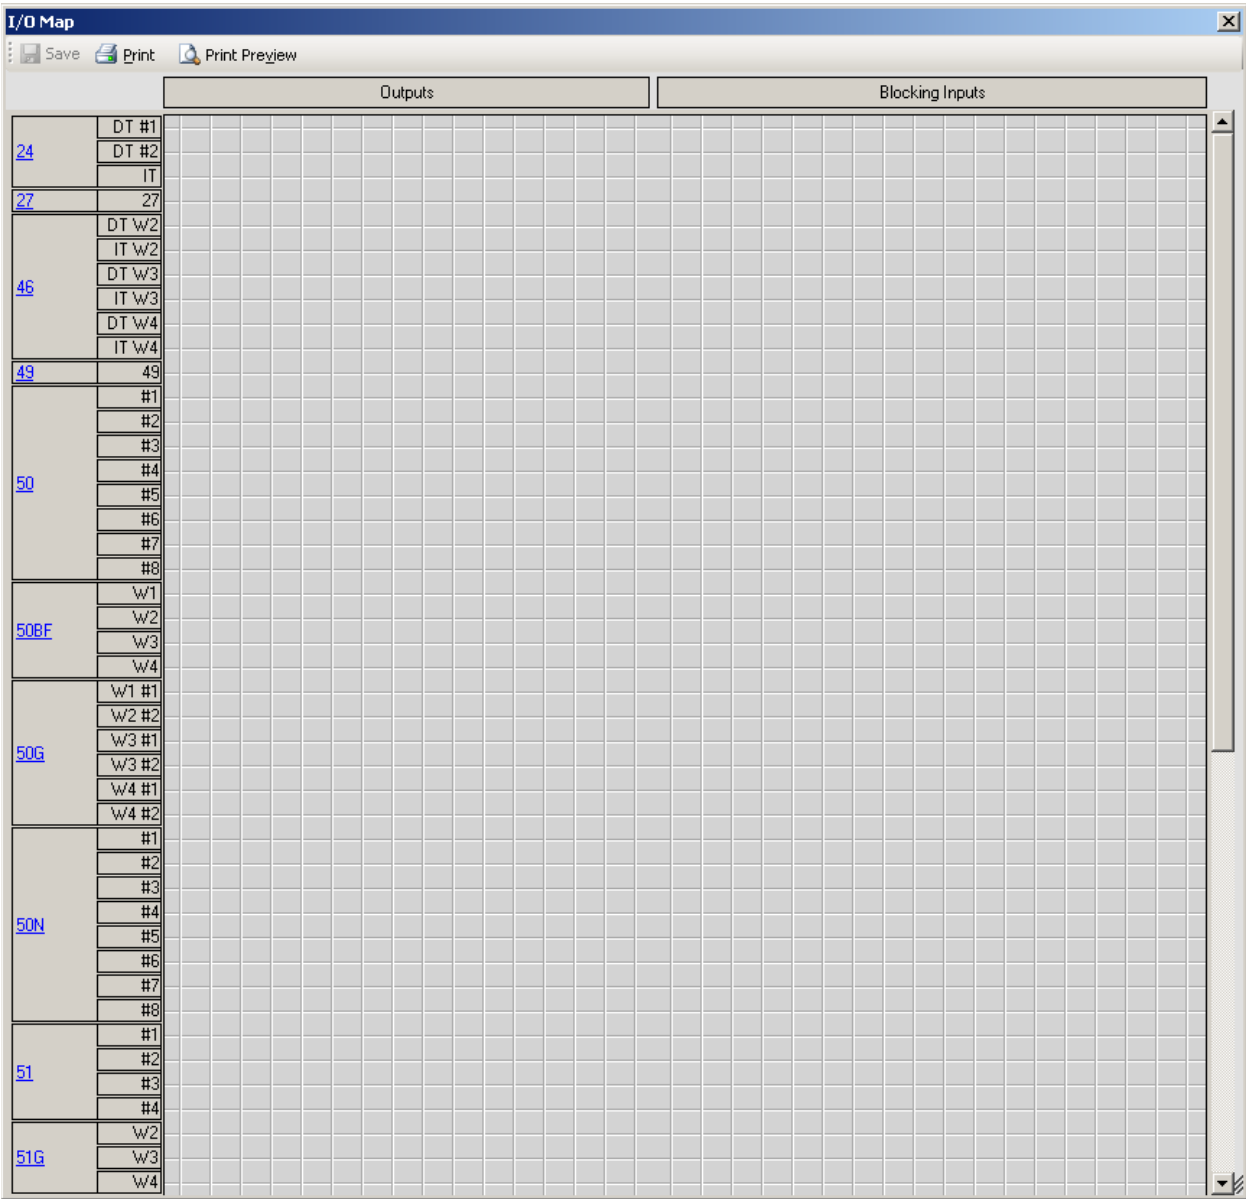

Figure 3-21 I/O Map Screen
- I/O Configure** Opens the I/O Map dialog screen (Figure 3-21)
Selecting the **I/O Map** button displays the I/O Map dialog screen (Figure 3-21), which contains a chart of programmed input and output contacts, in order to allow scrolling through all relay output and blocking input configurations.